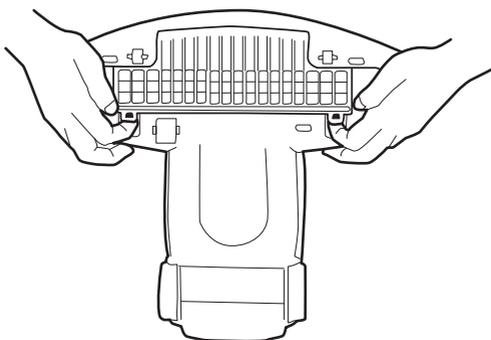

Figure 5
1. Detach the protective grill on the bottom of the base unit by gently pulling up on the two tabs at the back of the covering. Set the cover aside. (See figure 5)